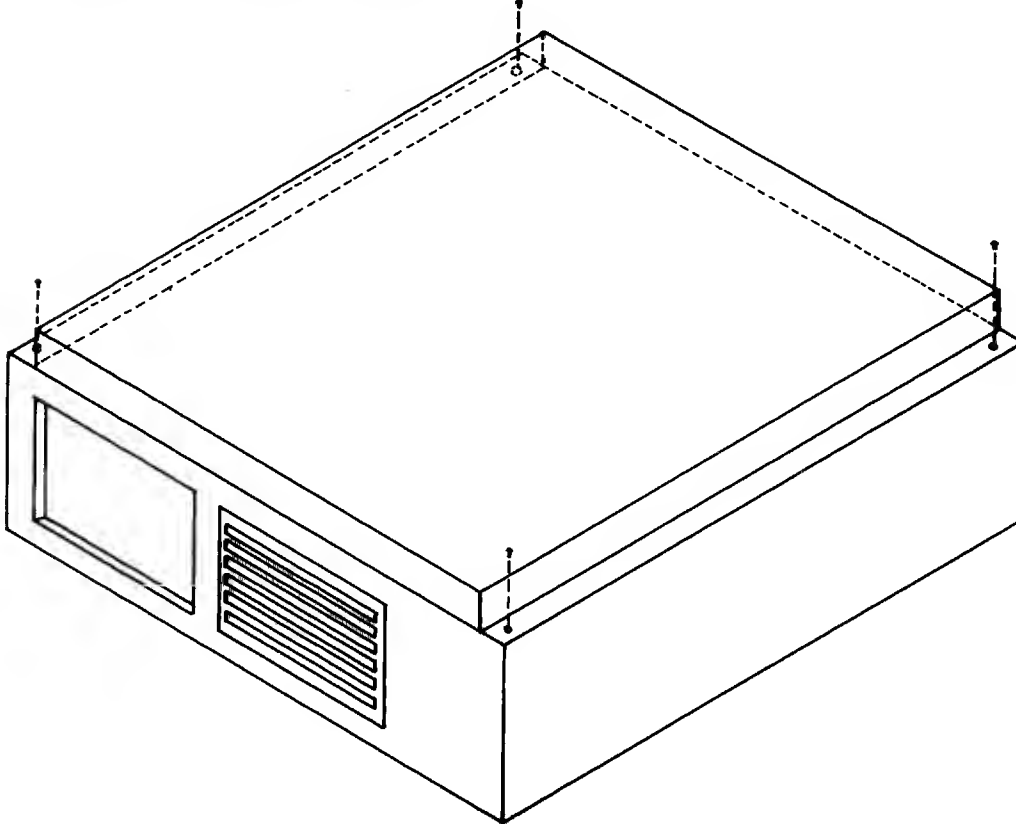

Figure 11-1: Decision Cover Screws
2. Locate the four (6 x 32) screws on the base of the computer. Figure 11-1 shows the underside of the computer and the location of these screws.